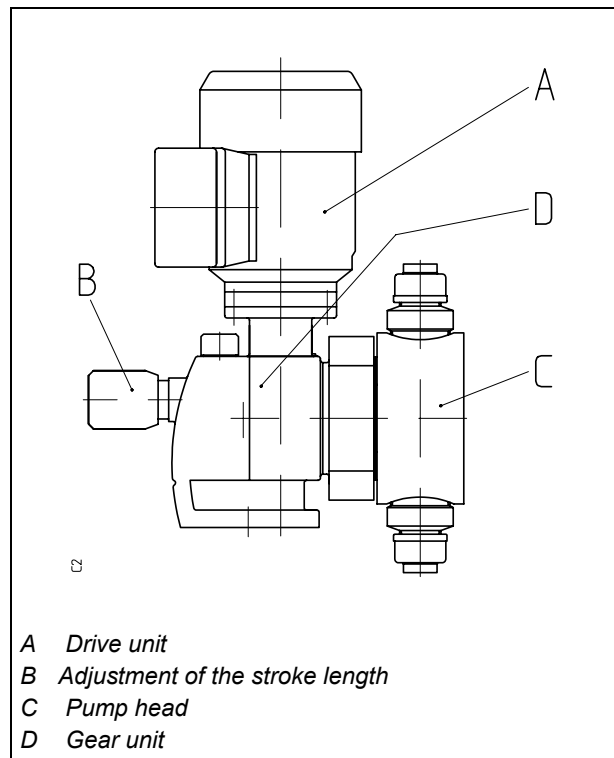

Fig. 2.1: Metering Pump
It consists of the drive (A) and the components for stroke length adjustment (B), the pump head (C) and the gear unit (D) (see *Fig. 2.1*)